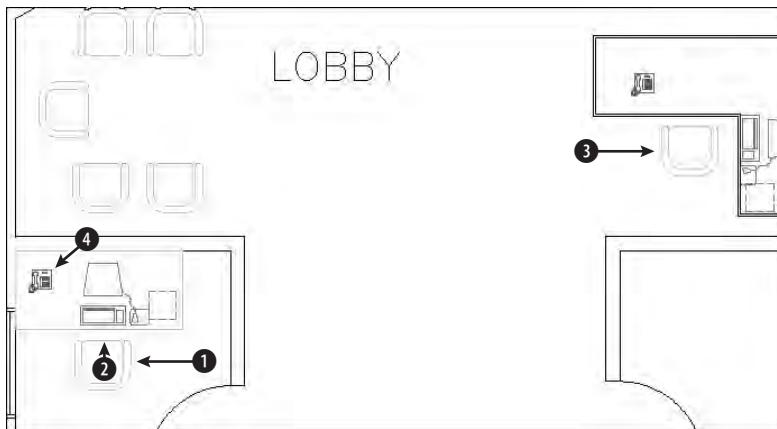

Figure 18-26: An office building plan layout
2. Save the file as `ab18-09.dwg` in your AutoCAD Bible folder. This is a portion of an office building plan layout, shown in Figure 18-26.
3. Choose **Modify** ⇨ **Object** ⇨ **Attribute** ⇨ **Single**. At the **Select a block:** prompt, pick the chair at ❶ in Figure 18-26. In the Enhanced Attribute Editor, change the date purchased to 4/97. Notice that the manufacturer is American Office Furniture. Because these attributes are invisible, you can't see the result in the drawing. Click OK.
6. Choose Explode from the Modify toolbar and select the chair at ❶ in Figure 18-26. The attributes reappear. Choose Draw ⇨ Block ⇨ Define Attributes. Create an invisible attribute with a tag and prompt of Color and a value of Dusty Blue. Click Pick Point and pick a point underneath the other two attributes of the armchair. (Exact placement is not important.) Choose OK.
8. Choose Insert Block. In the Insert dialog box, choose **armchair** from the Name drop-down list. With Specify On-Screen checked only for Insertion Point, click OK. Insert the chair at ❷. In the Enter Attributes dialog box, click OK to accept the values.
9. To verify that AutoCAD has redefined the block elsewhere, choose Modify ⇨ Object ⇨ Attribute ⇨ Single. Select the block at ❸. Notice that the Color tag has been added with a value of Dusty Blue. Click OK to accept the values.
10. Use Zoom Window to zoom in closely to the telephone at ❹ in Figure 18-26. The telephone has a visible attribute of the phone number. The number is so small that it cannot usually be seen and so does not interfere with the drawing.